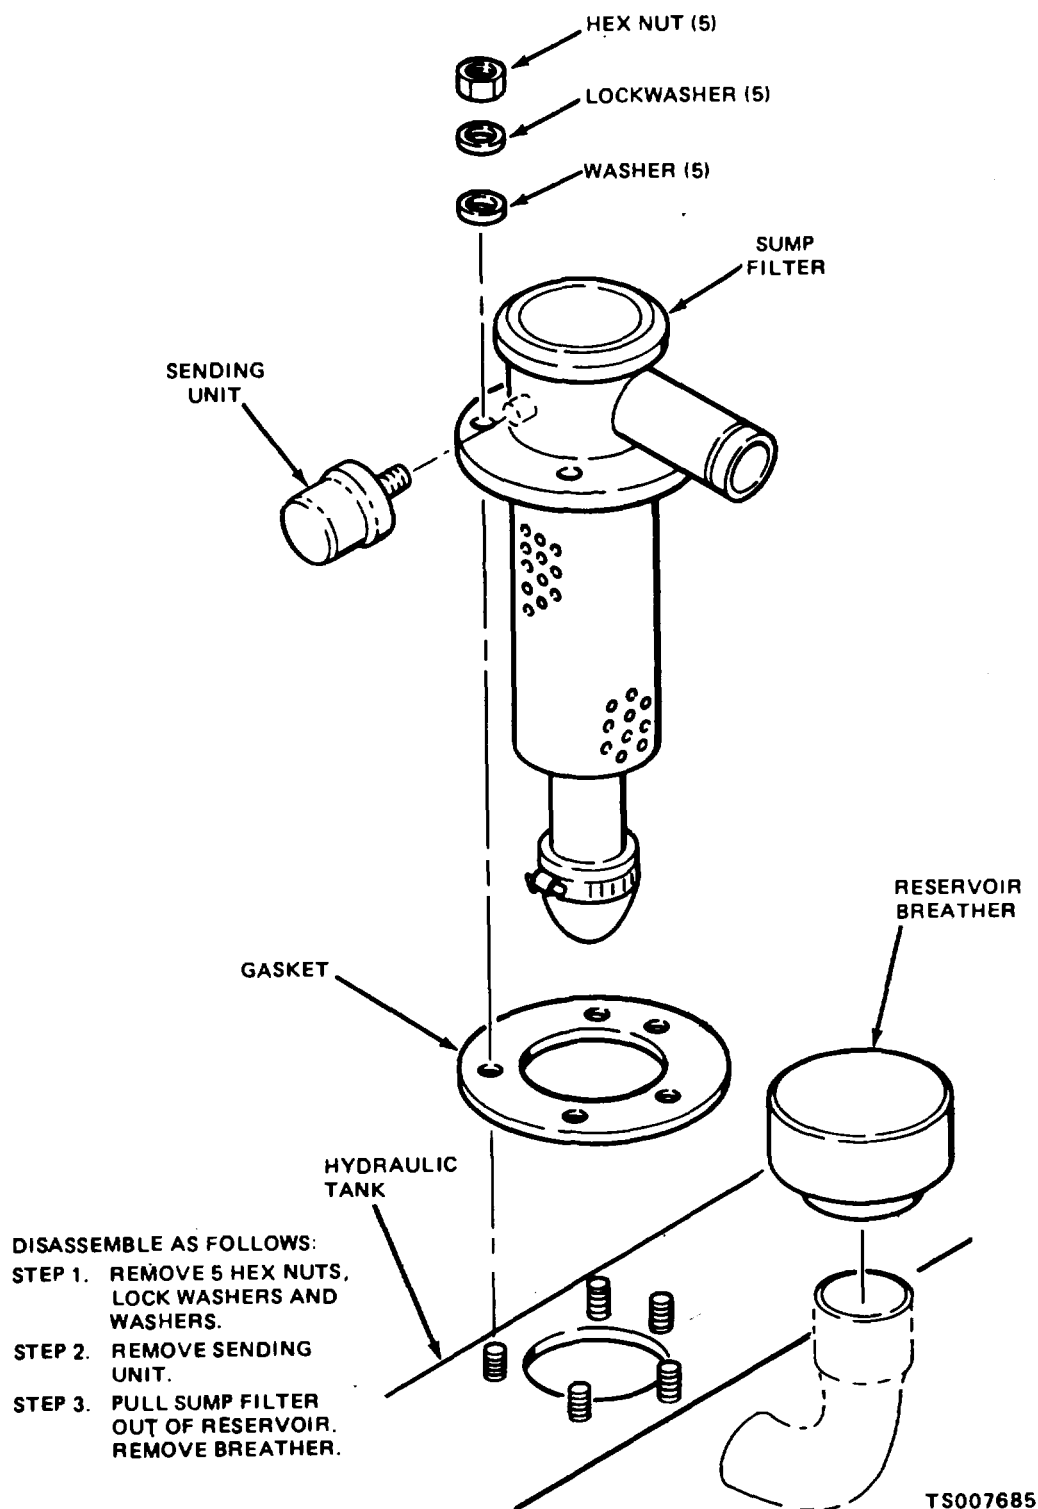

Figure 4-12. Hydraulic Oil Filter, Disassembly and Reassembly
(1) Disconnect the hydraulic hose from the hydraulic oil filter.
(2) Disassemble the hydraulic oil filter from the tank as shown in figure 4-12.
(1) Discard and replace the filter element and gaskets.
(2) Clean metal filter components with dry cleaning solvent P-D-680; dry with clean, dry compressed air. Clean the interior of the hydraulic tank with a clean cloth. Rinse with 2 quarts of hydraulic oil.
(3) Inspect the filter case for cracks, distortion, damaged mounting flange, and other damage; replace if damaged.
(4) Inspect the cover for cracks, scored or damaged outlet connection, studs that are loose or have damaged threads, or a damaged mounting flange.
d. Reassembly. Reassemble the filter as shown in figure 4-12.
a. Removal. Remove the hydraulic reservoir breather (fig. 4-12) by unscrewing it from the hydraulic reservoir filler pipe.
c. Installation. Install as shown in figure 4-12.